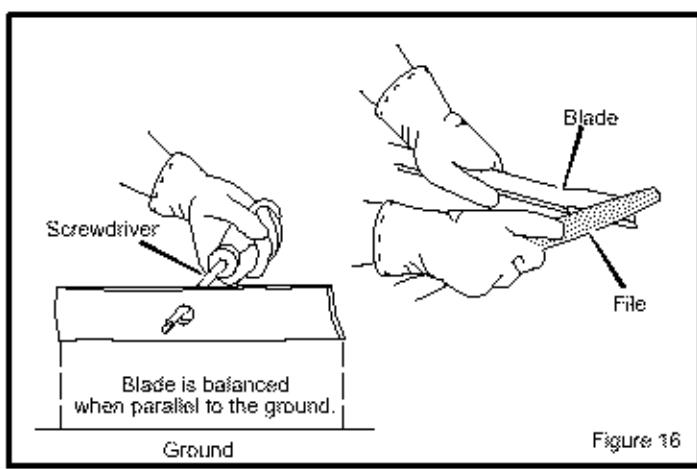

Figure 16
4. Sharpen the **blade** with a file (Figure 16). Make sure you keep the original bevel angle.
5. Make sure the **blade** is balanced. Use a **screwdriver** and hold the **blade** parallel to the **ground** (Figure 16). A **blade** that is balanced will stay parallel to the **ground**. If the **blade** is not balanced, the heavy end will rotate toward the **ground**. Sharpen the heavy end until the **blade** is balanced.